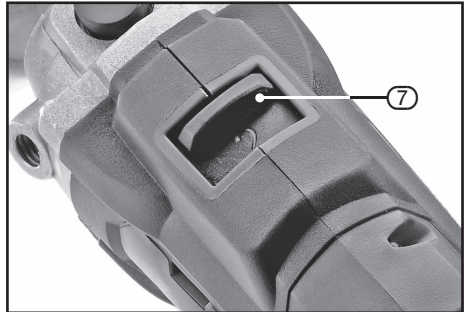

FIG.12
10.3 TWO SPEED SELECTOR SWITCH – FIG.12